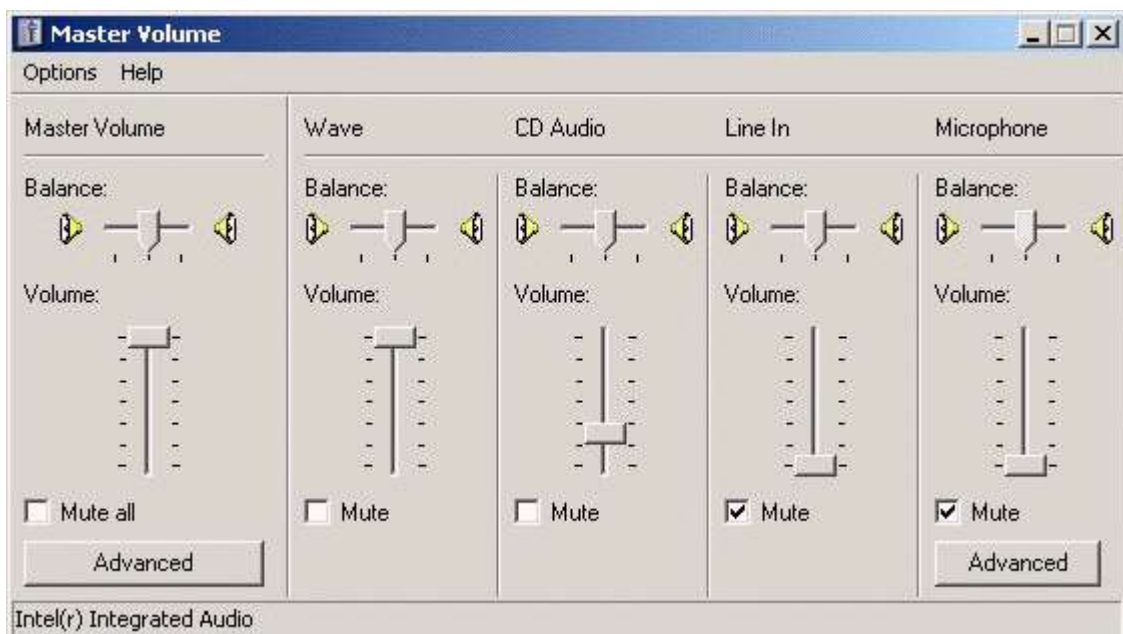

Figure 1.17 Typical setup of a soundcard output mixer in Windows XP
- 1) In ARTA Audio device setup dialog click the button '**Control panel**' to open the Windows '**Master Volume**' dialog box, which is shown on Fig. 1.17.
- 2) Click on menu '**Options->Property**' and select soundcard channel that will be used for output (playback), as shown in Fig. 1.17.